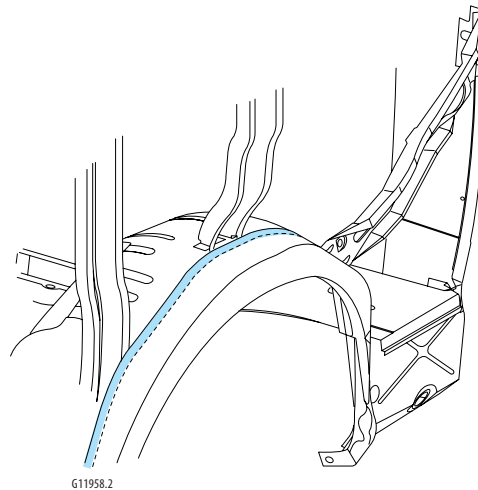

Figure 8-2:
4. Apply a strip of 25mm (1 inch) masking tape along the flange of the outer wheelhouse (figure 8-2).